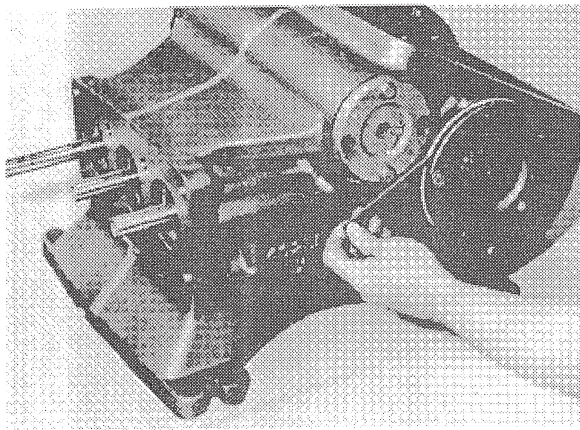

Fig. 13
- B. Install the left cap without shims, secure with two cap screws positioned exactly as shown in "Fig. 13". Torque the two cap screws at 13 foot pounds, rotate the crankshaft, retorque the cap screws. Do this three times to properly seat the tapered roller bearings.